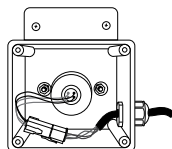

FIGURE 2
2. Once the UV bulb has cooled off remove the CLEARRAY System enclosure cover (9) and gasket (8) by removing the four screws (10). This will expose the UV bulb and connections, Figure 2.